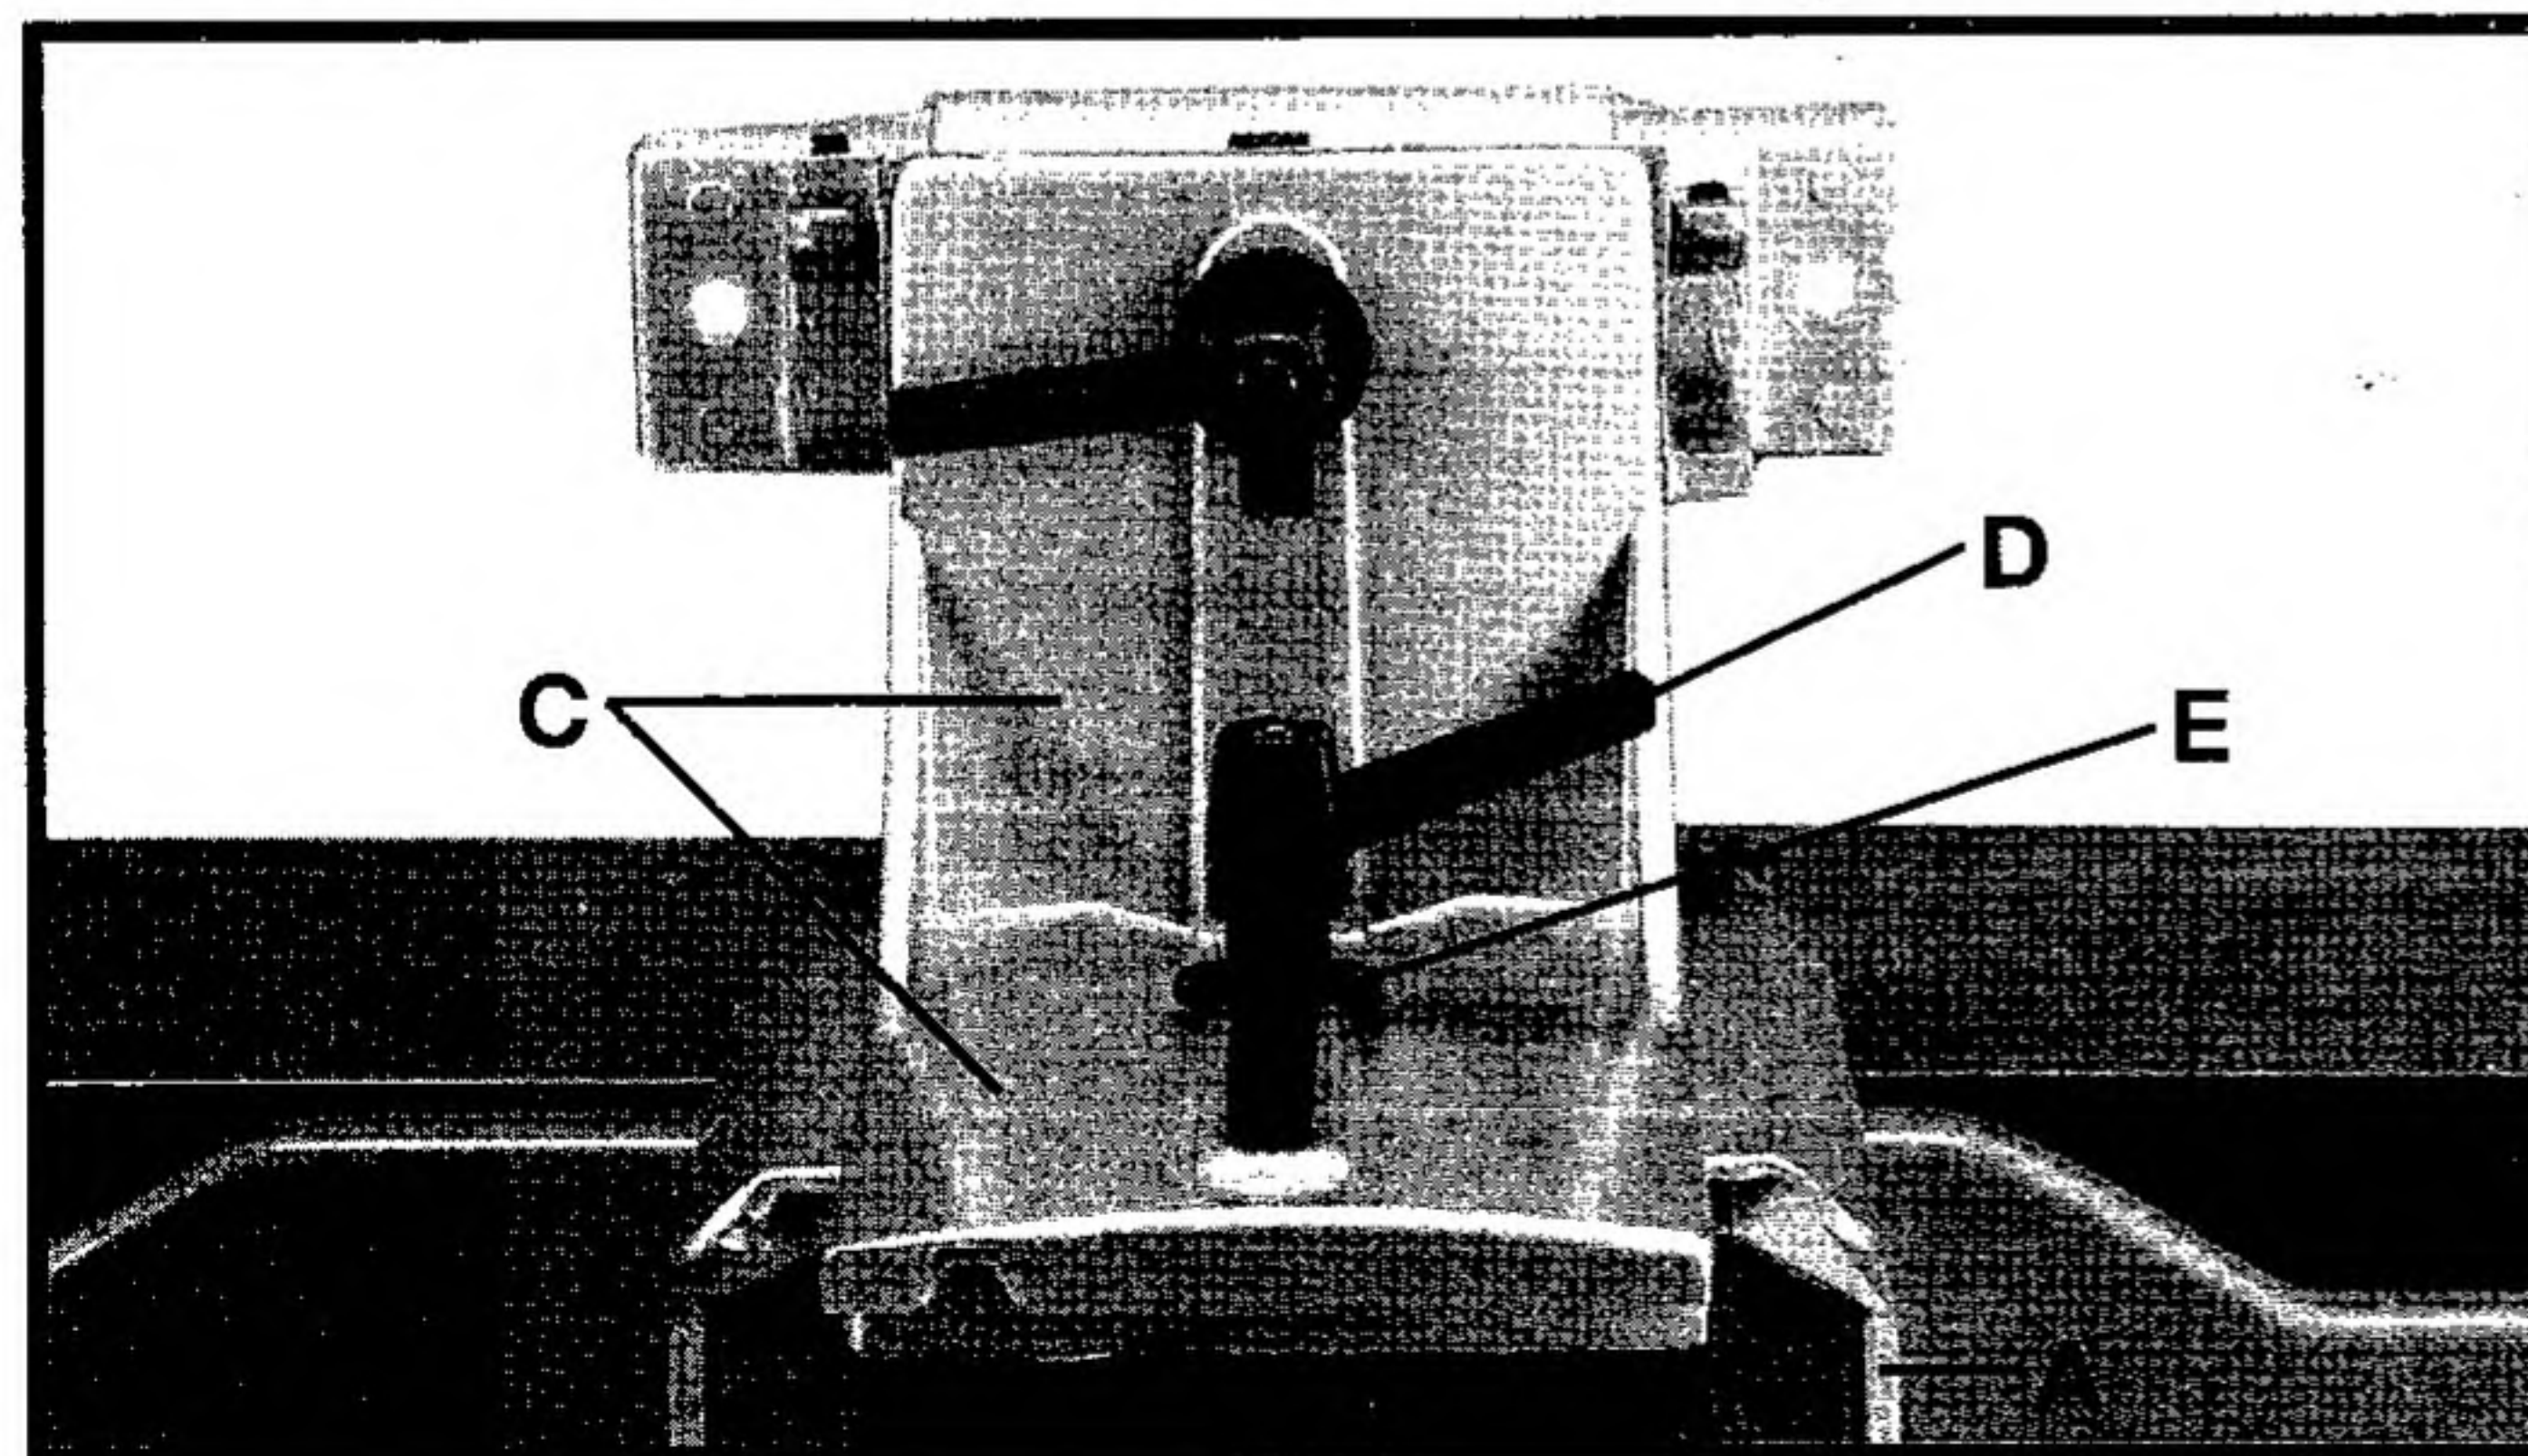
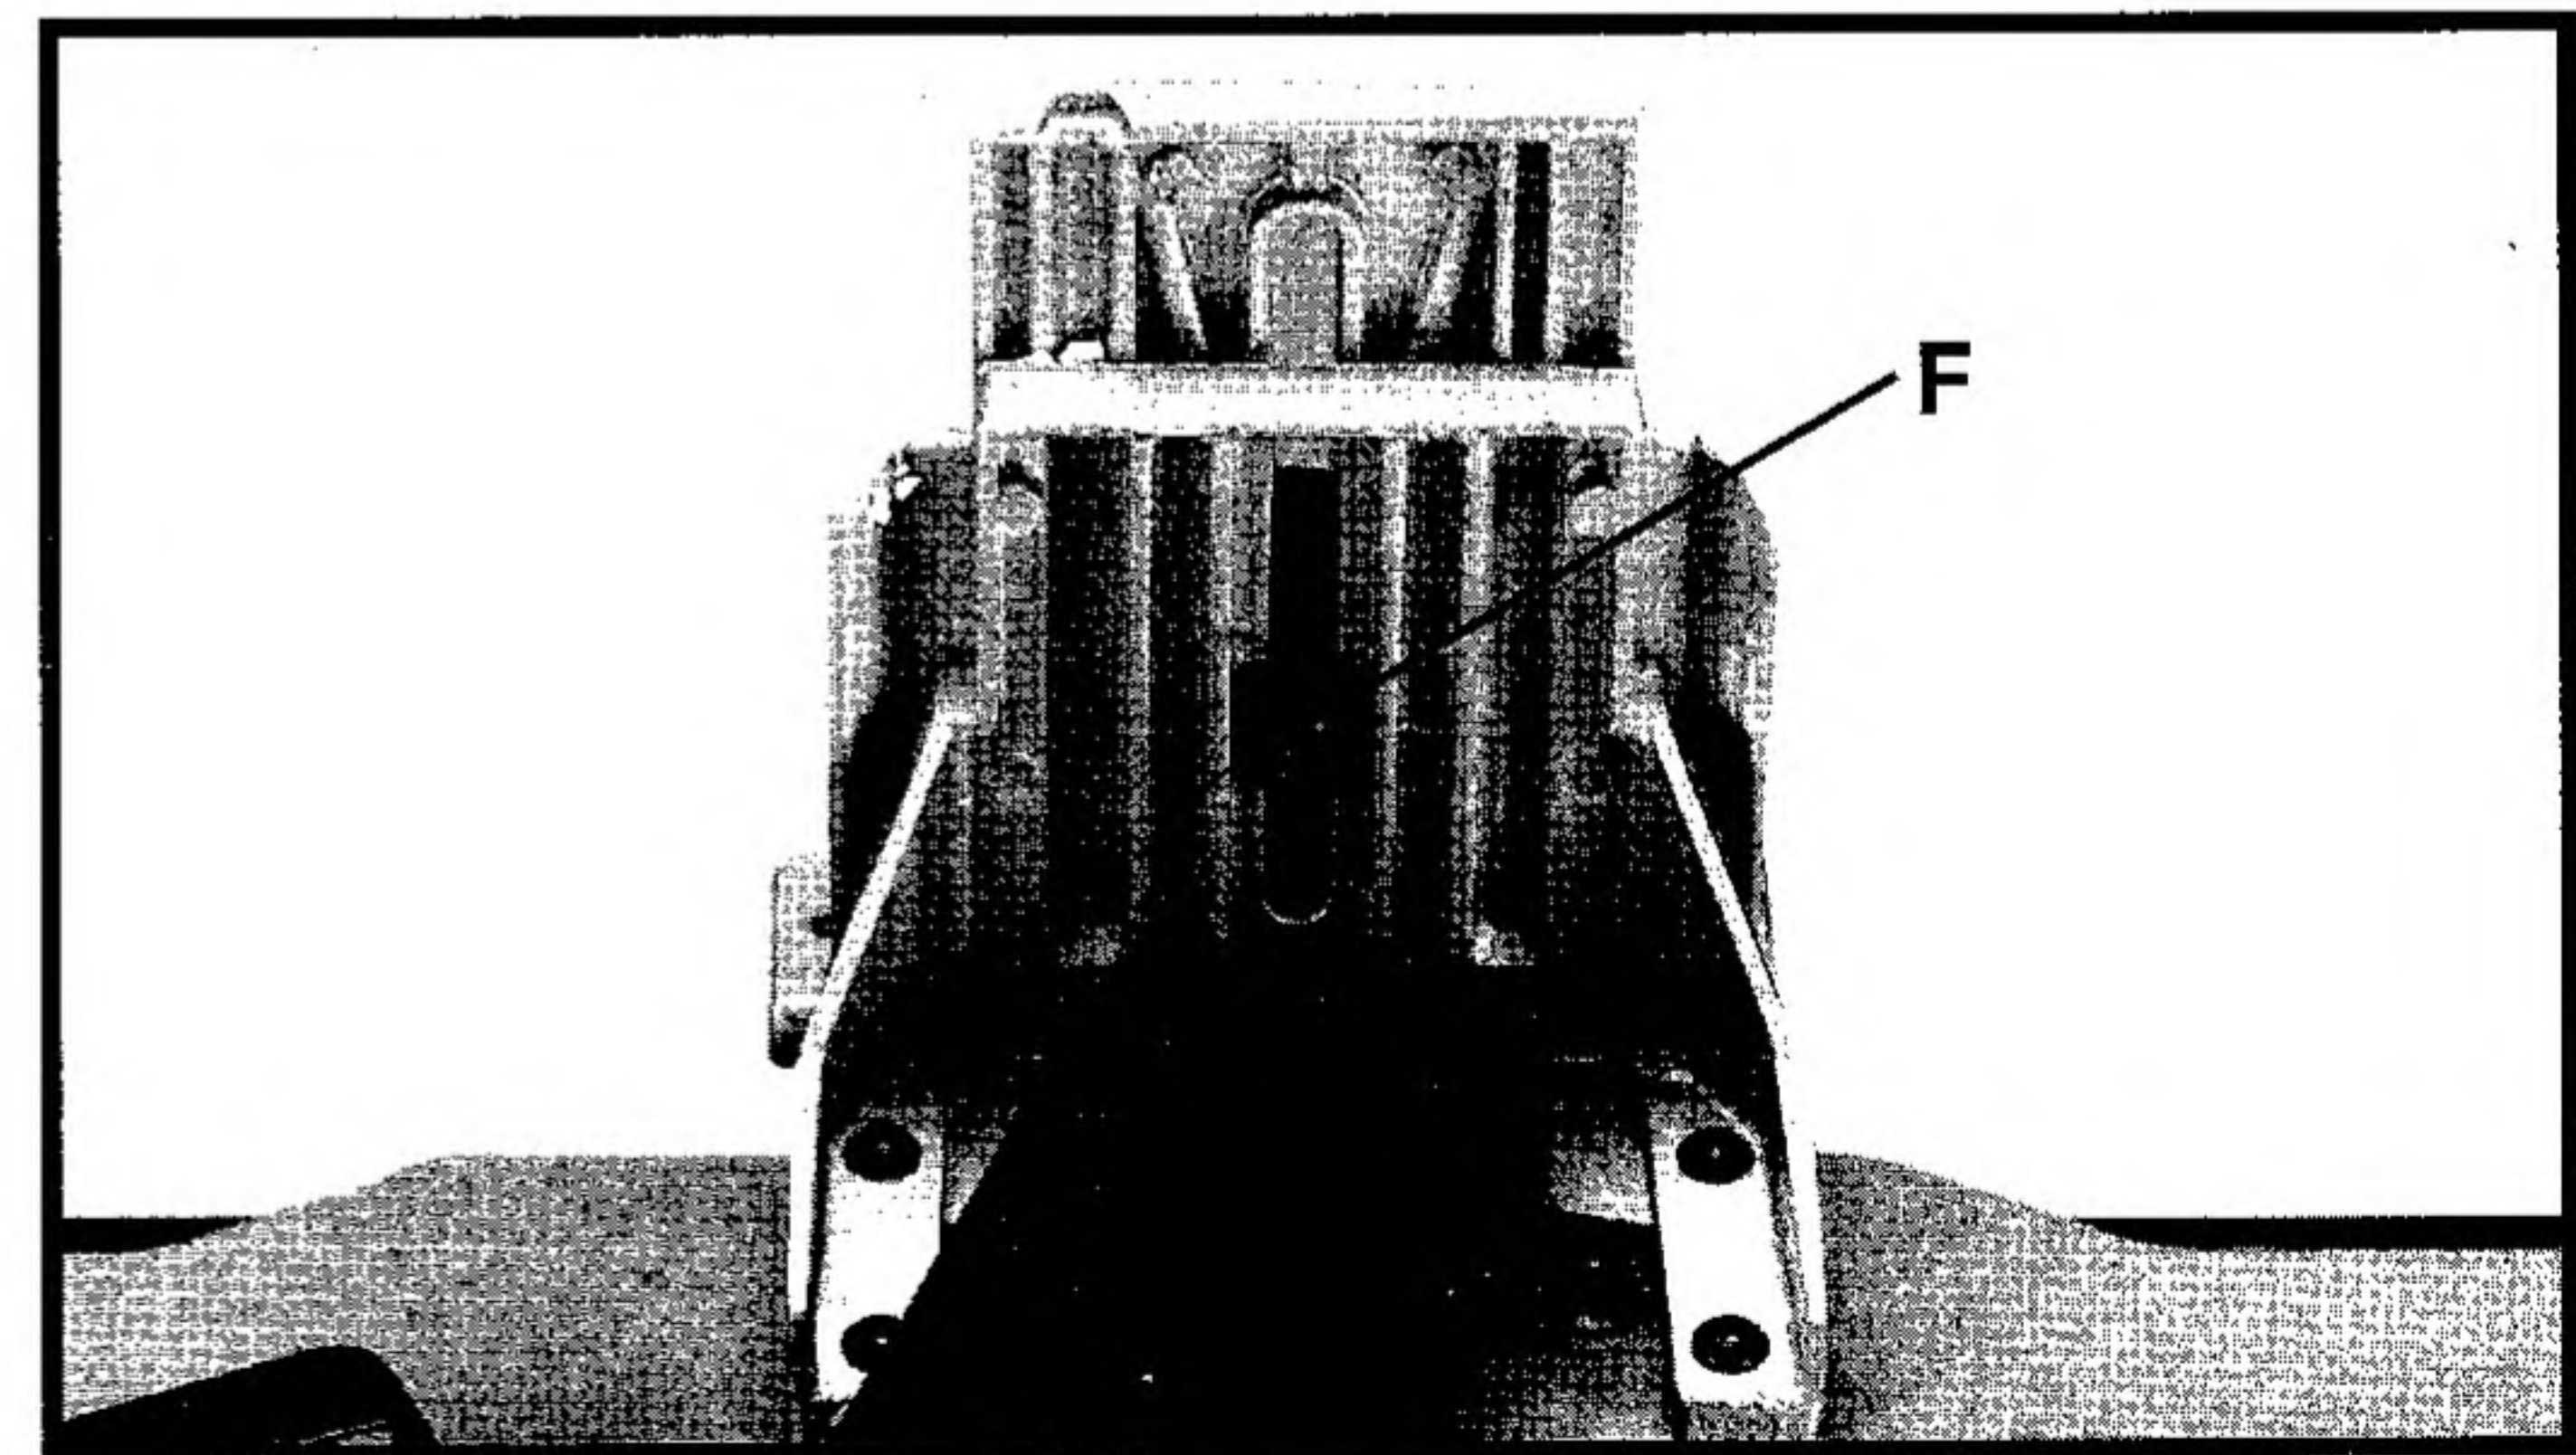

Fig. 7
Fig. 8
2. Assemble the fence sliding bracket (C) Fig. 7 to mounting bracket (A) using the lockhandle (D), M8 flat washer (E) and special nut (F) Fig. 8.